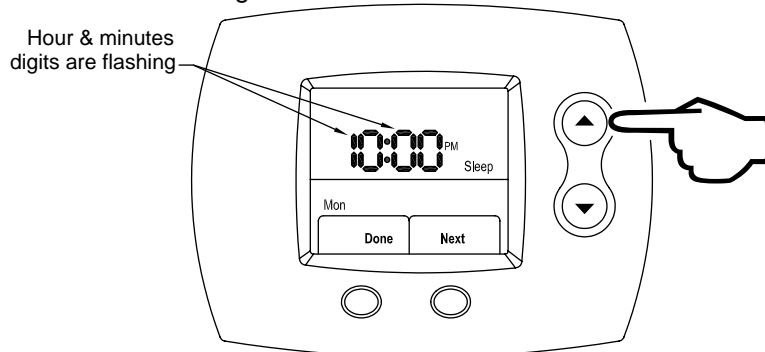

Figure 68
Step 21: Press the **UP** (increase time by 15 minutes) or **DOWN** (decrease time by 15 minutes) buttons to select the Sleep period start time. The time increments in 15-minute intervals just as it did for the previous periods. This is shown in Figure 68.